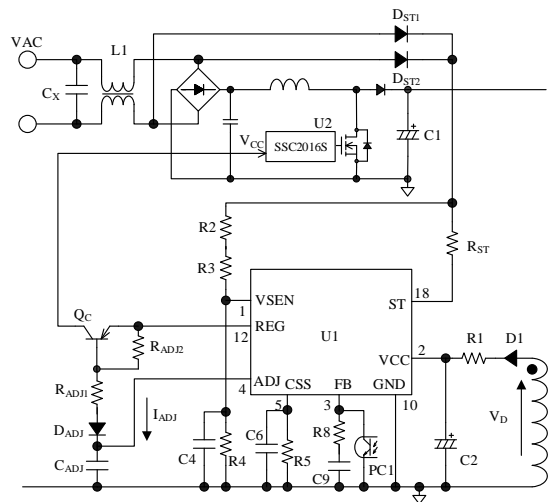
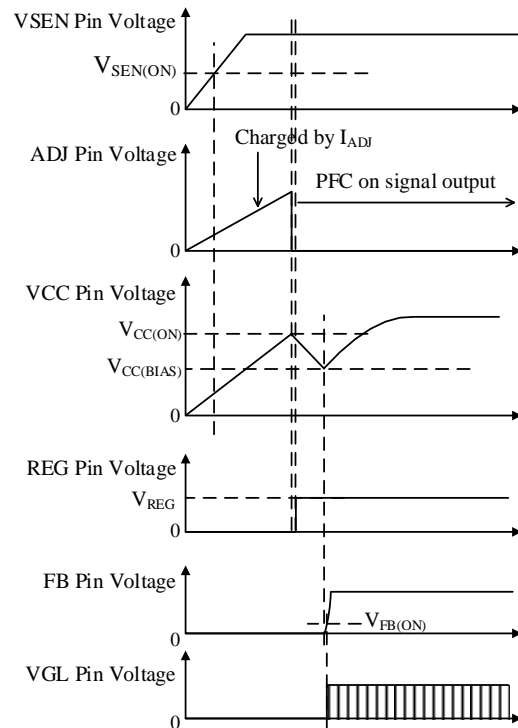

Figure 8-11. VCC Pin Peripheral Circuit
Figure 8-12. Startup Operation When PFC ON/OFF Function is Enabled
Figure 8-11 shows the VCC pin peripheral circuit. Figure 8-12 shows the startup operational waveforms.
During the IC operation, the rectified voltage from the auxiliary winding voltage, V_D , in Figure 8-11 is a power source to the VCC pin.
- The value of C2 in Figure 8-11 is increased and/or the value of R1 is reduced.